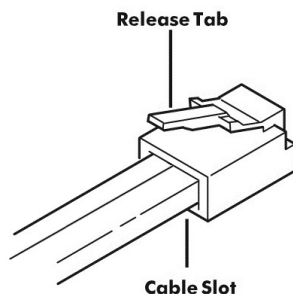
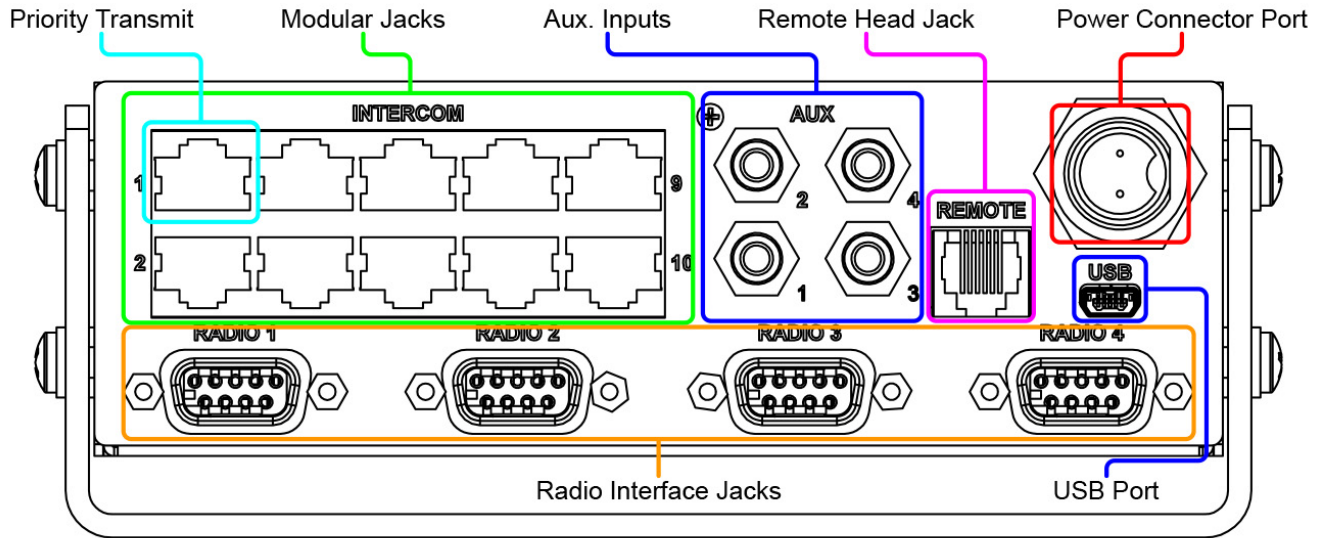

Figure 12
FIGURE 13: Modular Jacks
IMPORTANT: ALWAYS make sure the printed side (or smooth side) of the cable is facing away from the release-tab on the RJ-12 Modular Plug (Figure 12). This ensures proper orientation of the plug on each end of the cable.
6. With the release-tab on the RJ-12 Modular Plug facing up (Figure 12), insert the RJ-12 Modular Plug into a modular jack on the rear of the Intercom unit (Figure 13).